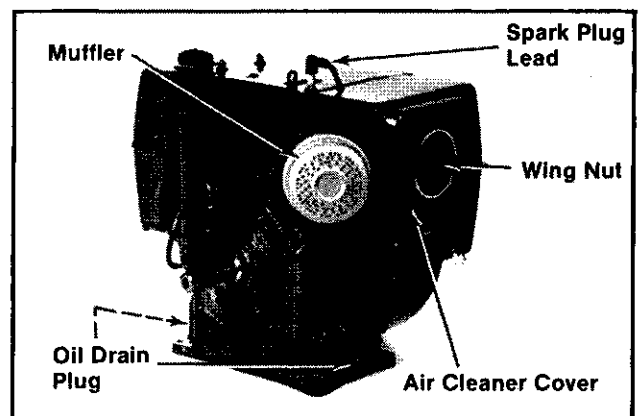

Figure 10B-1. Removing Spark Plug Lead, Oil Drain Plug, Air Cleaner Cover, And Muffler.
1. Remove the wing nut and air cleaner cover. Refer to Figure 10B-1.